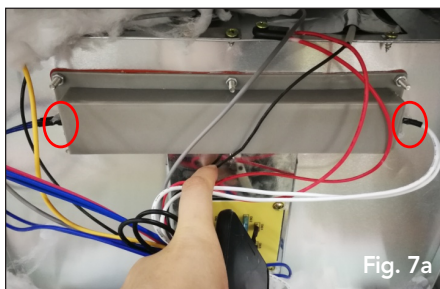

Fig. 7a
10. Reattach both lines and tighten the screws of the UV box. See Fig. 7a & 7b.